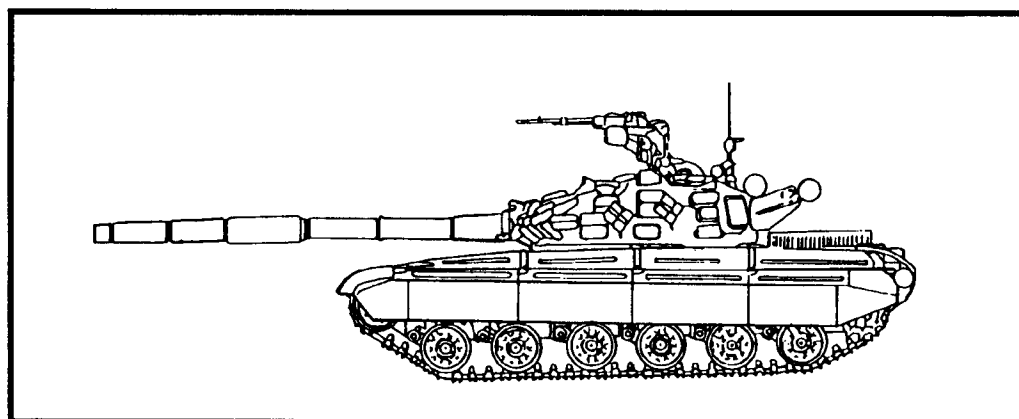

Figure F-2. T-64B.
(2) *T-64B* (Figure F-2). The T-64B is similar in appearance to the T-64/64A. It has full length track skirts, only 8 smoke projectors, and the optic on the left side of the turret is twice the size of that on the T-64A. Significant differences are that it has a laser range finder, sometimes mounts reactive armor, has applique armor on the turret roof and sides and part of the hull roof, and fires the AT-8 Songster ATGM through the gun barrel.